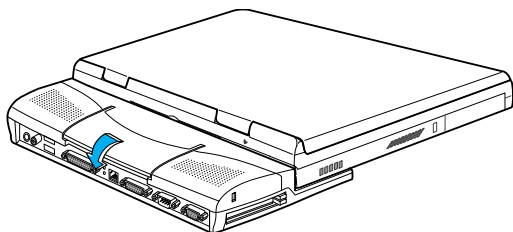

Figure 5. Settling the notebook PC
5. Push down the “open latch”. (Figure 5)